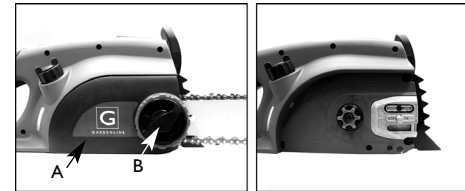

Fig. 3A
2. To remove the side cover (A), turn the knob (B) counter-clockwise. (Fig. 3A).